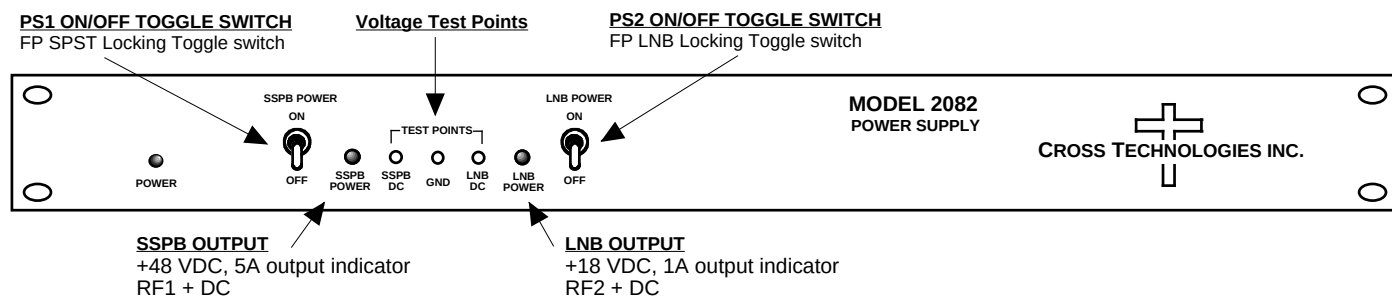

FIGURE 2.3 Front Panel Controls and Indicators
Figure 2.3 shows the front panel controls and indicators.
8. Be sure DS3 (PS DC, green) is on (Fig. 2.3).
9. Monitor PS1 and PS2 voltage levels using provided test points (Fig. 2.3).